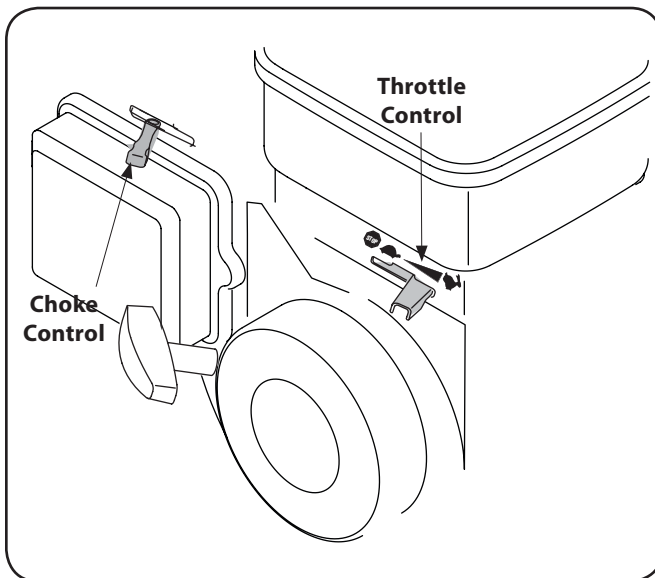

Figure 5-1
4. Move engine throttle control lever to FAST or START position. See Fig. 5-1.